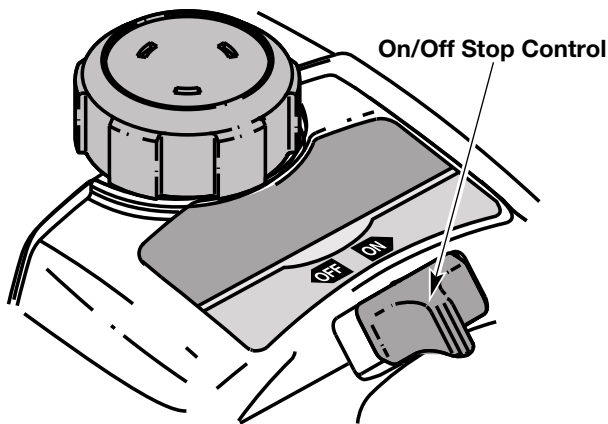
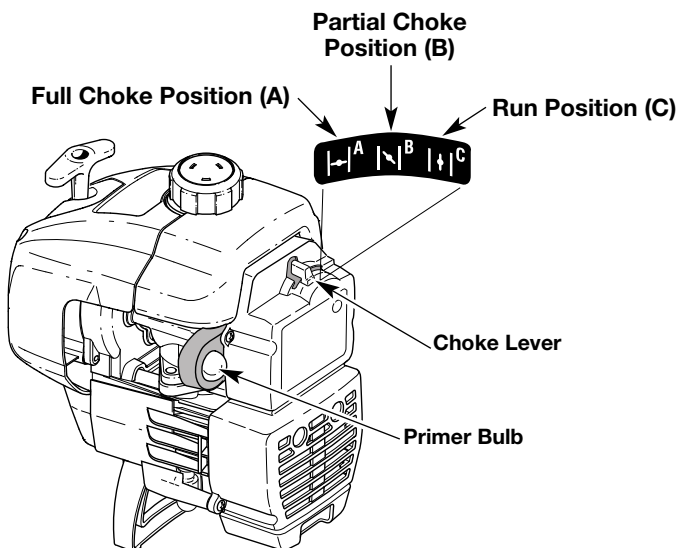

Fig. 14
Fig. 15
2. Put the On/Off Stop Control in the **ON** position (Fig. 14).
3. Fully press and release primer bulb slowly 5 to 7 times. Fuel should be felt and visible in the bulb (Fig. 15). If fuel hasn't entered the bulb, press three more times, or until it does.
4. Place the choke lever in the **FULL** choke position (A) (Fig. 15).
6. Place the choke lever in the **PARTIAL** choke position (B) (Fig. 15).
9. Squeeze the throttle control to warm up engine for 5 to 10 seconds. Place the choke lever in the **RUN** position (C) (Fig. 15).
NOTE: Choking is unnecessary when starting a warm engine. Put the On/Off Stop Control in the ON position (Fig. 14), and start in **PARTIAL** Choke position (B) (Fig. 15).
2. Put the On/Off Stop Control in the **OFF** position (Fig. 14).